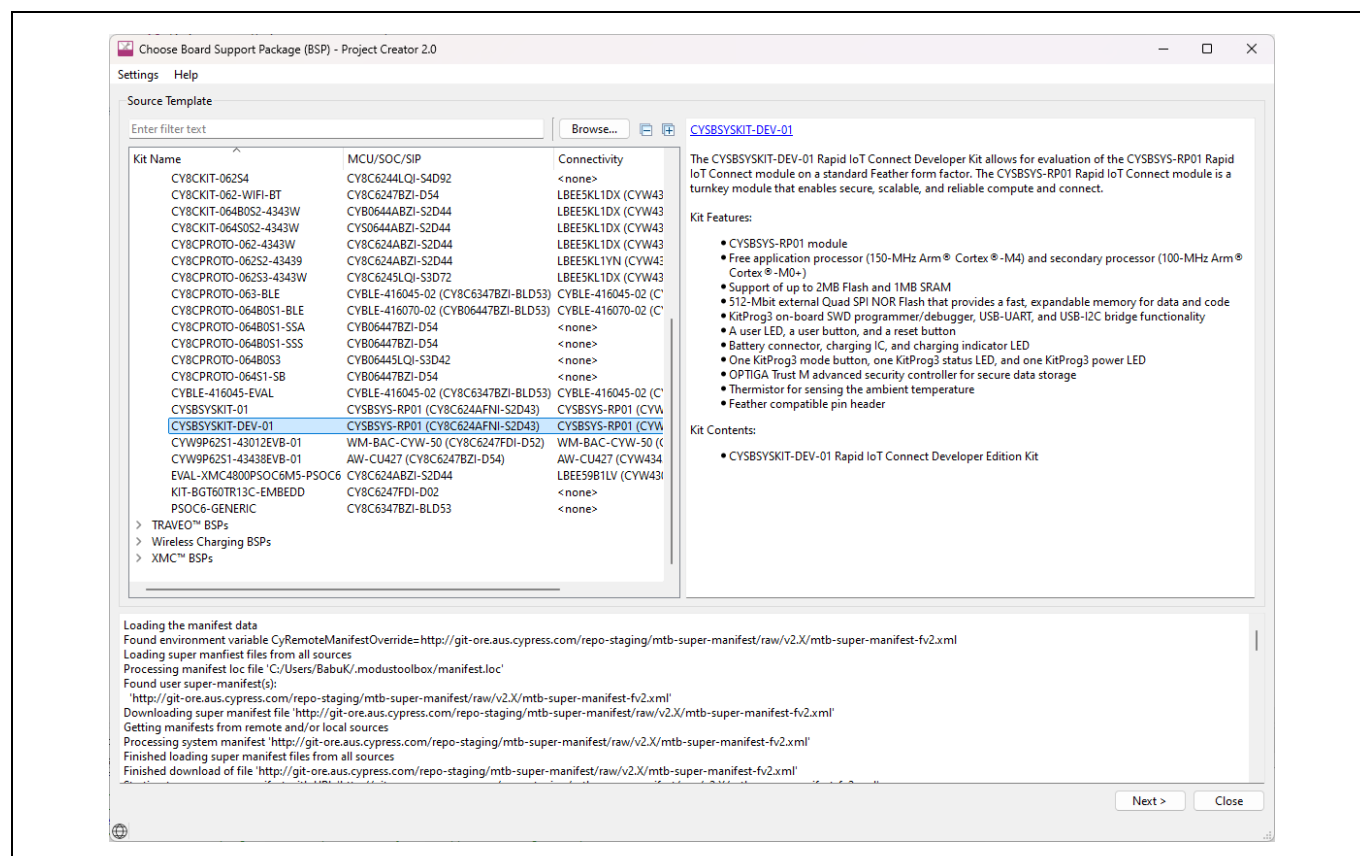

Figure 8 Selecting the BSP
- Select **CYSBSYSKIT-DEV-01** BSP from the **PSOC™ 6 BSPs** dropdown as shown in the Figure 8 and click next.